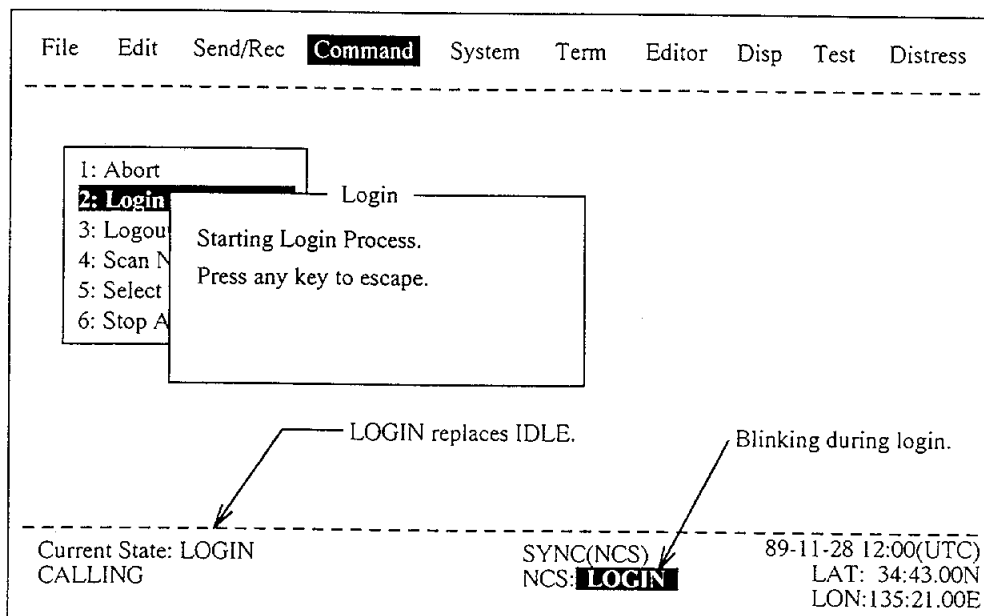

Figure 2-6 Appearance of Display Screen During Login
5. LOGIN begins and the screen should now look something like Figure 2-6. The indication LOGIN appears in blinking reverse video.